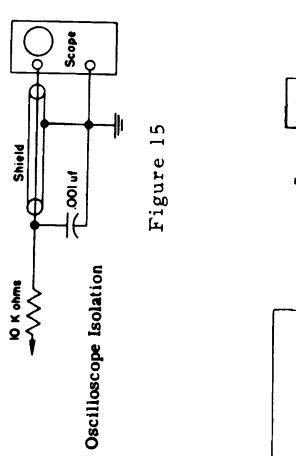

Figure 15
5. A sweep frequency generator with a sweep center frequency of approximately 43.5 MC and 10MC sweep width will be required to check the over-all response of the receiver. An oscilloscope with good vertical gain should be substituted in place of the voltmeter during this part of the alignment. Figure 15 shows correct method of hooking the scope to the video detector load. The sweep generator should be connected to the tuner converter grid in the same manner as the CW generator in paragraph 1. Use the same isolating condenser and input connection to the mixer grid. Loosely couple the CW generator (marker) to the input by clipping or touching the CW generator "hot" lead to the unshielded insulated end of the sweep generator "hot" lead. This will afford a small amount of capacitive coupling. If the CW and sweep generators are contained in the same instrument, it will only be necessary to switch on the sweep frequency generator in order to continue the procedure. Tune the sweep frequency generator to a center frequency of approximately 43.5MC. Use a sweep width of approximately 10 MC so that the base of each of the two response curve skirts is well within the ends of the oscilloscope trace. Check the overall bandwidth, position of the picture carrier, dip in bandpass, and trappage by using the marker pip to locate frequency points on the response curve. See Figure 16. Tune the CW generator to 45.75 MC. The marker pip should appear at approximately the 50% point on the response curve skirt. Readjust individual coils to give proper bandpass. It should not be necessary to adjust converter or input coil. Once the picture carrier has been correctly positioned at the 50% response point, tune the CW generator to 42.50MC, which should be the 50% point on the sound side. The 10% limits on tilt, dip and rounded corners should carefully be evaluated before making adjustments to change the response curve. This is particularly important in weak signal areas. Sensitivity of the receiver may be reduced in adjusting for the ideal response curve.